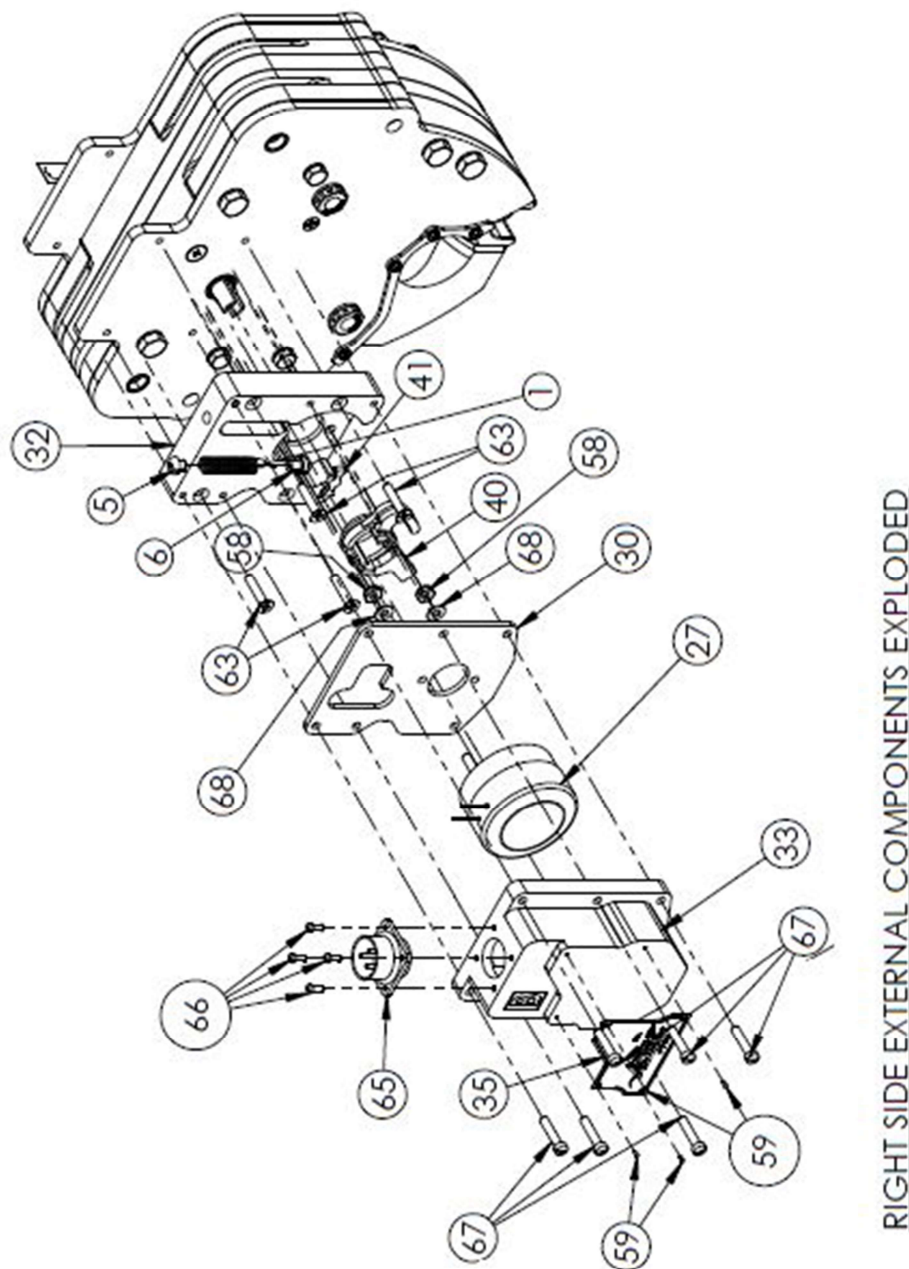

Figure 4.6: Hook Right Side Externals Exploded View (Sys. “B”)
- Remove System “A” External Components (Figure 4.6)
- Loosen screws (items 64, 63, & 60) to remove release mechanism components from cargo hook. See Figures 4.6 and 4.7 for exploded views of each side of the cargo hook.